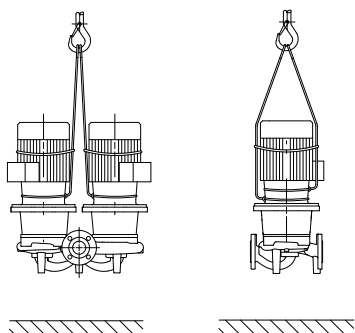

Fig. 7: Attaching the pump
- The transport eyes on the motor are only for guiding as the load is carried (Fig. 7).